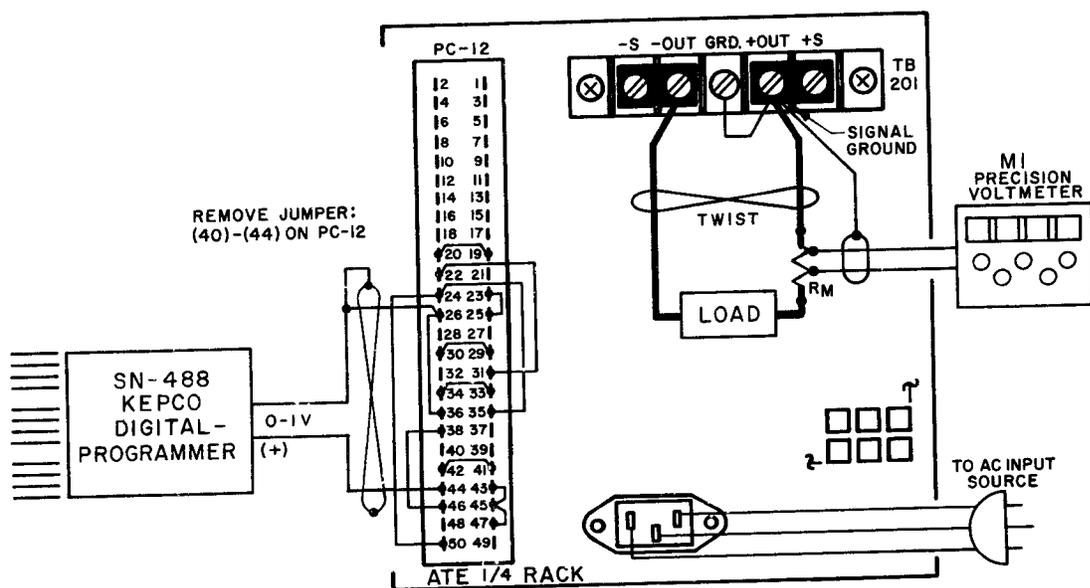

FIG. 3-11 CONNECTIONS FOR OUTPUT CURRENT CONTROL WITH A 0-1 VOLT CONTROL SIGNAL (KEPCO SN-488 DIGITAL PROGRAMMER).
- 3-58 GENERAL. The ATE output current, controlled by a front panel CURRENT CONTROL rheostat in the local control mode, can be remotely controlled by disconnecting the 15V bias from the non-inverting input of the EXT. CURRENT COMPARISON AMPL at the REAR PROGRAMMING CONNECTOR, and applying a 0 to 1 volt external control signal with reference to the ATE COMMON terminal. Since the non-inverting input of the EXT. CURRENT COMPARISON AMPL is used, only the small amplifier bias current must be supplied by the external control source. IN ALL CURRENT PROGRAMMING APPLICATIONS, THE FRONT PANEL CURRENT CONTROL SETTING OF THE ATE ACTS AS A "BACK-UP" CURRENT LIMIT AND MUST BE SET SLIGHTLY HIGHER THAN THE REQUIRED MAXIMUM OUTPUT CURRENT. An application, demonstrating this control method is described in PAR. 3-60 and illustrated in FIG. 3-11.
- 1) Connect the EXT. CONTROL VOLTAGE, (Model SN-488 Digital Programmer), the LOAD and the PRECISION VOLTMETER (M1) to the ATE as shown in FIG. 3-11.
- Note: The output current value can be measured directly by means of a suitable ammeter in series with the load or, as indicated in FIG. 3-11, indirectly by means of the precision voltmeter (M1) across a current measuring resistor (R_M). R_M should be selected such that a convenient range on the precision voltmeter can be used, e.g., for a 10 ampere output current, use a 0.1 ohm, resistor to produce a one volt full scale reading. If an electronic voltmeter is used, it should be battery-operated to avoid ground loops.